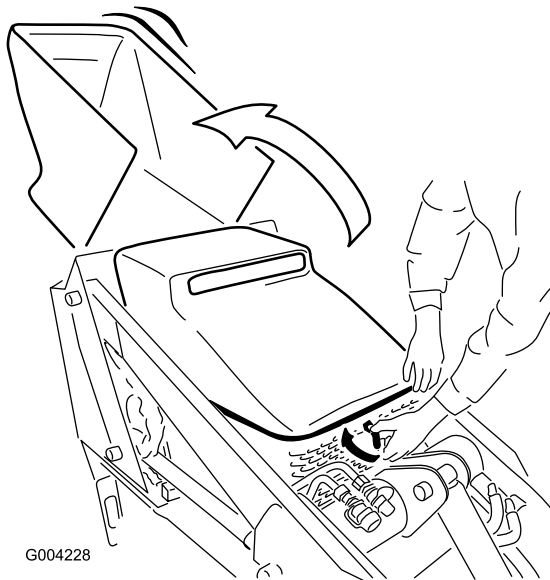

Figure 26
1. Turn the hood latch clockwise (Figure 26).
2. Swing the hood up (Figure 26).